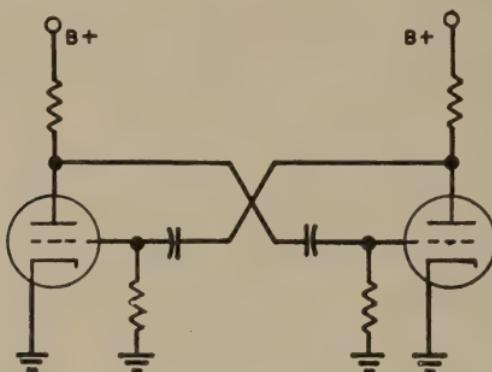

FIG. 4-19.—Multivibrator oscillator.
*Ans.* Figure 4-19 illustrates a simple schematic of a multivibrator circuit.